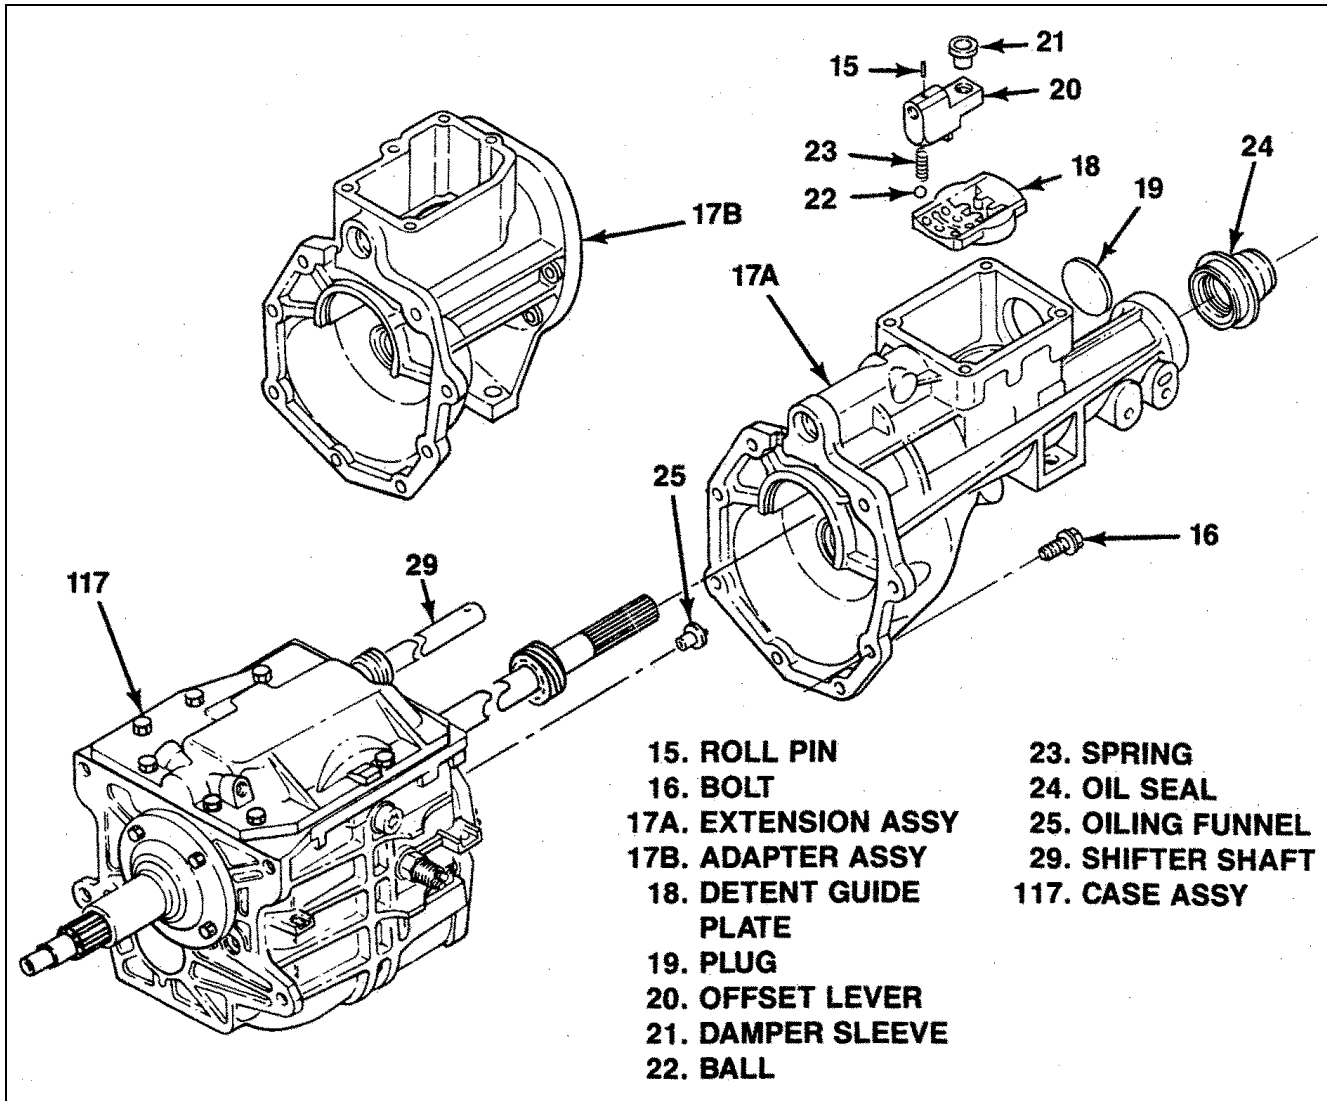

Figure 6-19. T5 WC Extension or Adapter
6-18. INSTALLATION OF T5 WC EXTENSION OR ADAPTER. With case cover installed, proceed as follows (see figure 6-19):
- a. Install o-rings (14) on speedo adapter (10). Insert oil seal (13) and speedo driving gear (12), then install pin (11).
- b. Install speedo adapter (10), with assembled parts, in transmission and attach with screw (9).
- c. If used, install harness retainer (8), pin (7) and neutral switch (6).
1. Install boot(4) if replaced.
3. Position control lever and housing assembly (3A, 3B, or 3C) on extension (17A) or adapter (17B) engaging inside end of lever in damper sleeve (21, figure 6-19) installed in offset lever (20, figure 6-19).
4. Install screws (2). If control lever and housing assembly (3C) is used, also install screws (2A). Torque all screws to 13 lb-ft (17 Nm).
- f. Install fill and drain plugs (1) and torque to 20 lb-ft (27 Nm).